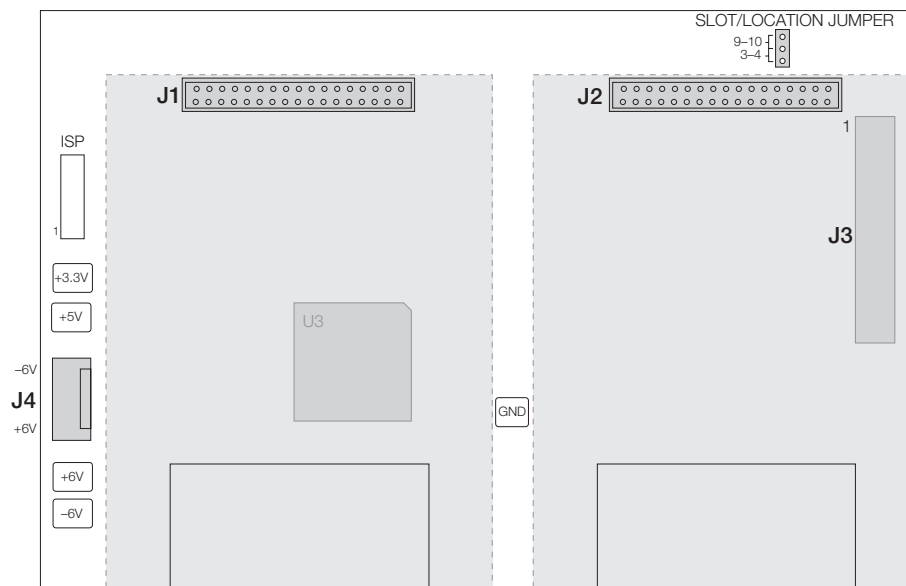

Figure 1. Two-Card Expansion Board
17. Set the slot/location jumper to the 3-4 position (see Figure 1 on page 1).
14. Set the slot/location jumper to the 3–4 position (Figure 1 on page 1).